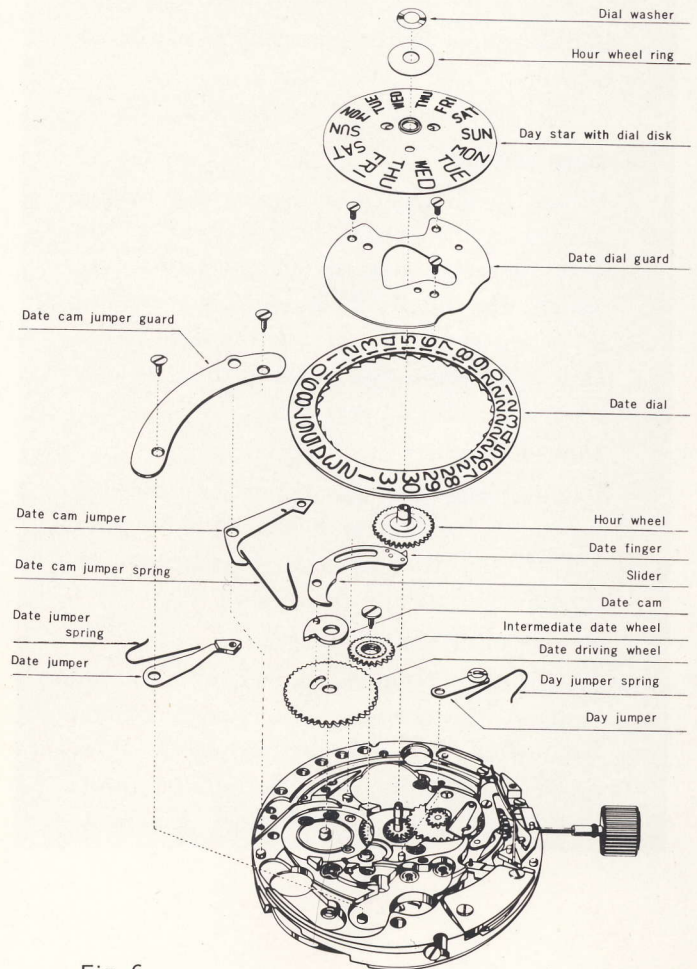

Fig. 6
3)-1 Exploded view of calendar device (Fig. 6)